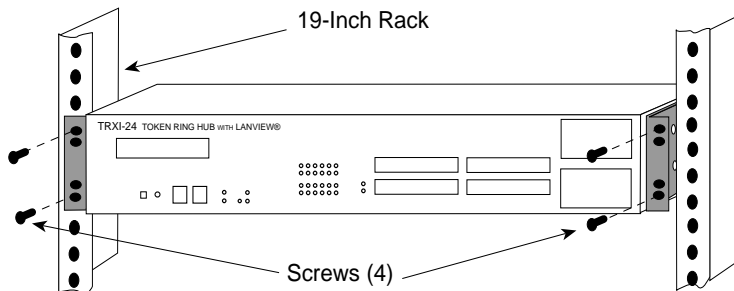

Figure 3-3. Installing the TRXI in the Rack
3. With the mounting brackets installed, position the TRXI between the vertical frame members of the 19-inch rack and fasten it securely with the mounting screws (see Figure 3-3).